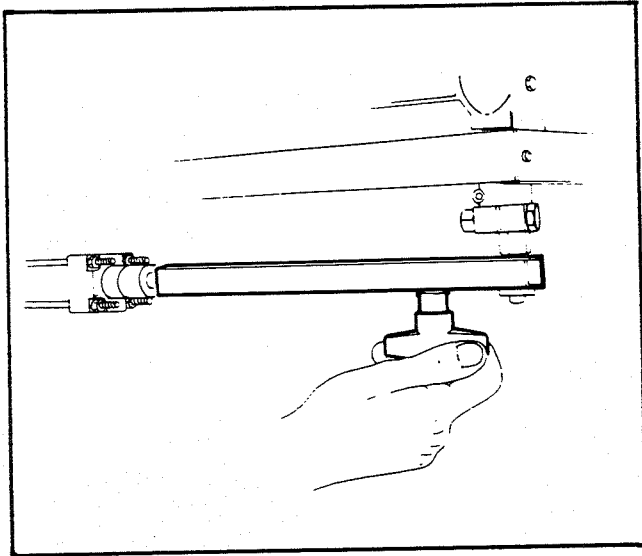

Figure 24 - Hand Knob
Box Width Range - The operating range of the side guides can be reduced to minimize their movement to the range of box widths being sealed. Therefore, the operating speed can be significantly increased. The range is established by limiting the open position of the side guide air cylinder. After establishing the maximum box width, position the side guides as follows (refer to Figure 24 and 25):
2. Loosen the hand knob, shown in Figure 24, on the air cylinder rod which is located under the infeed conveyor.